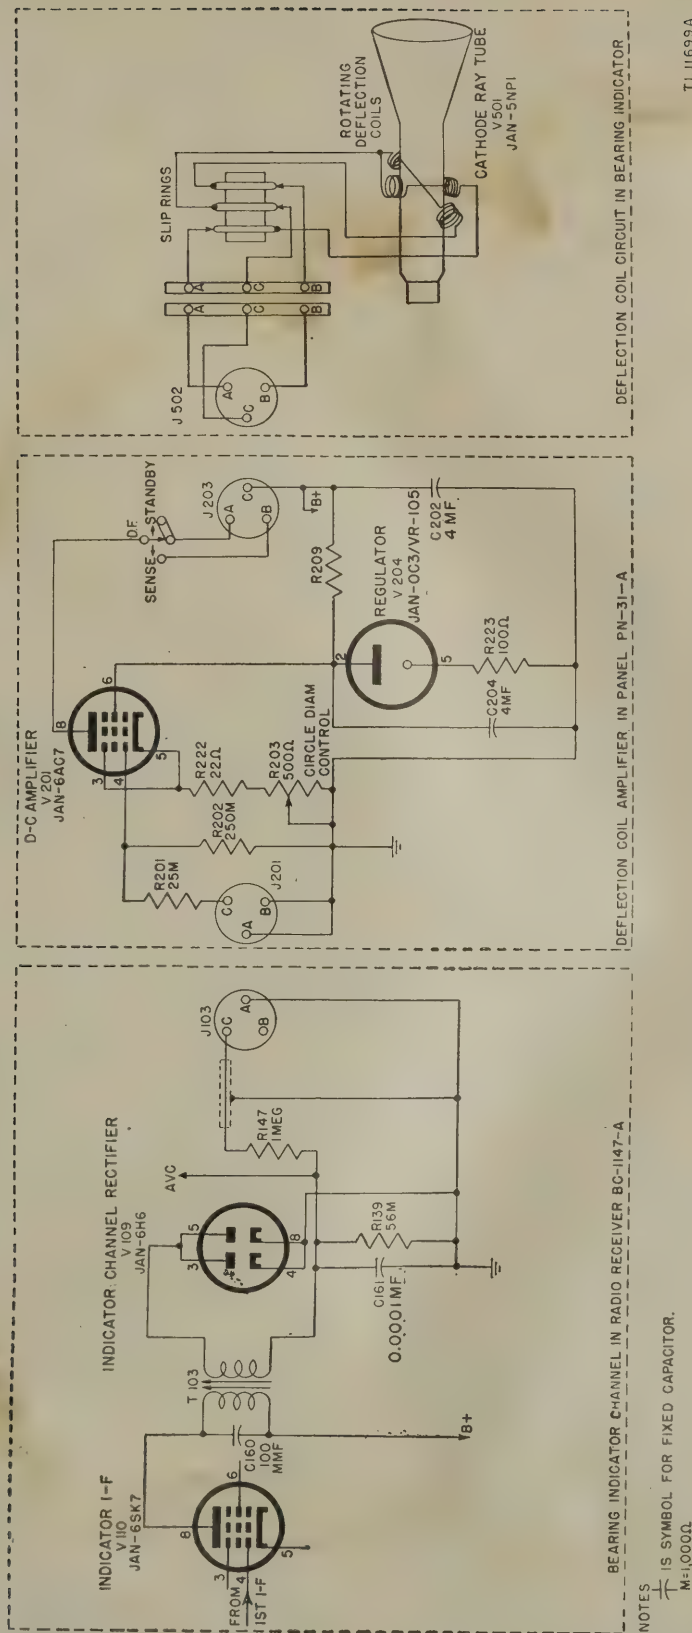
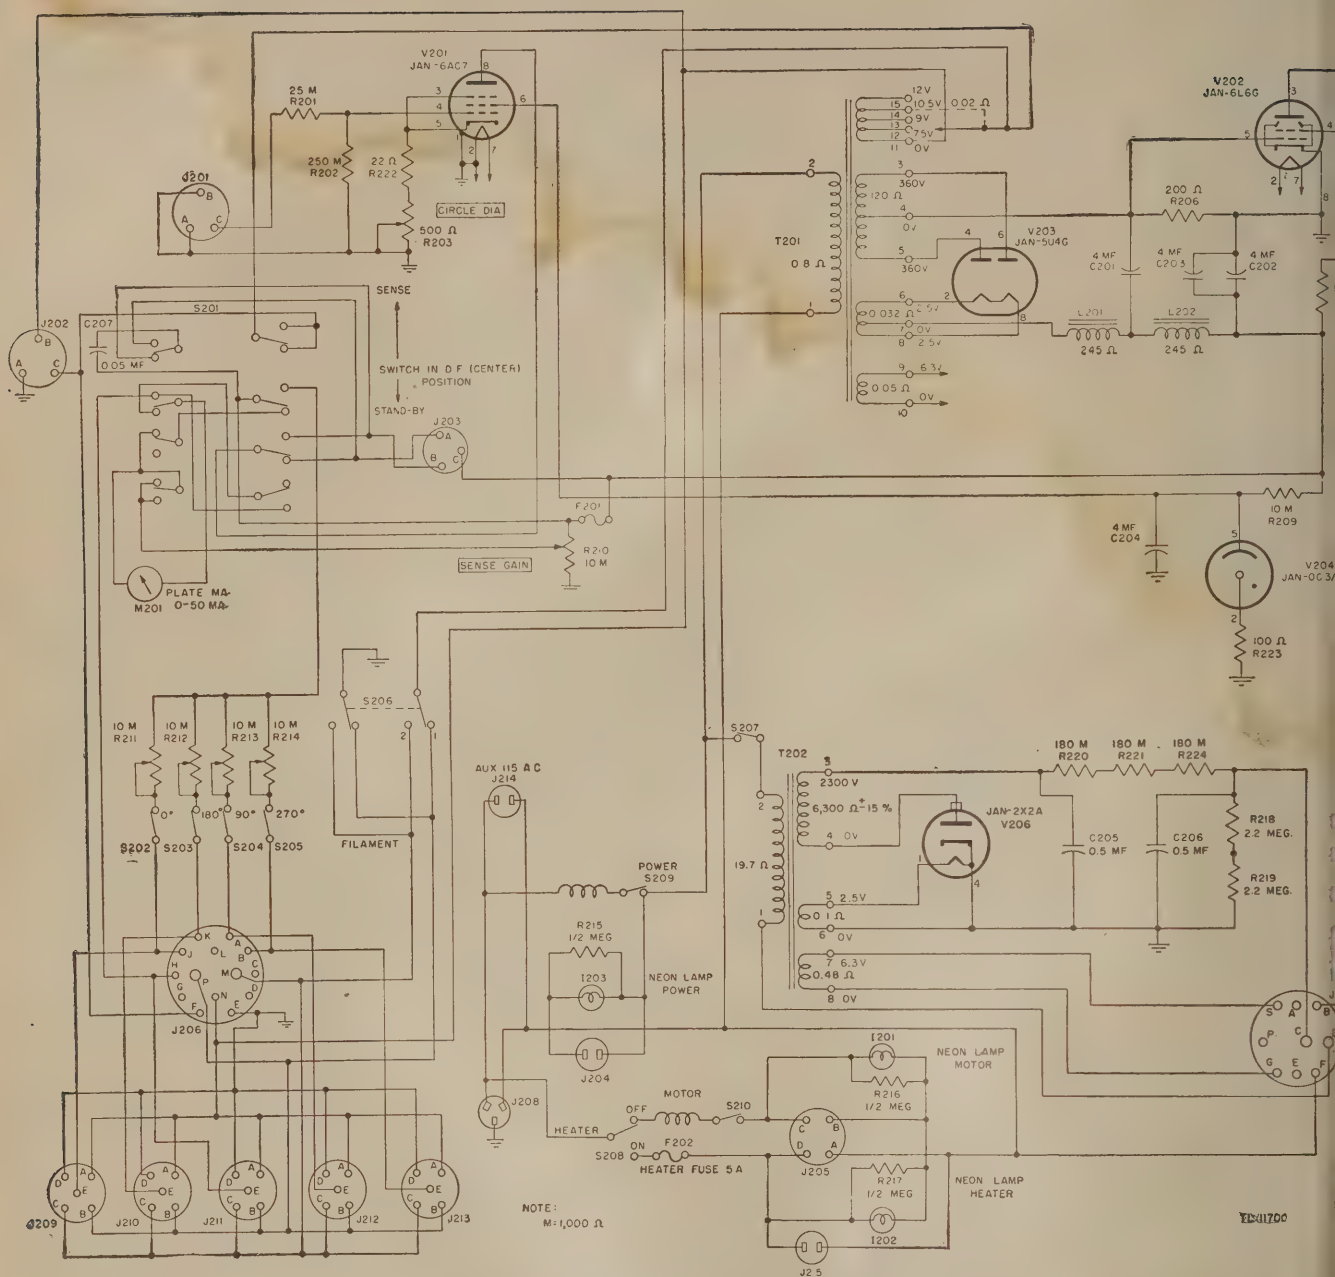
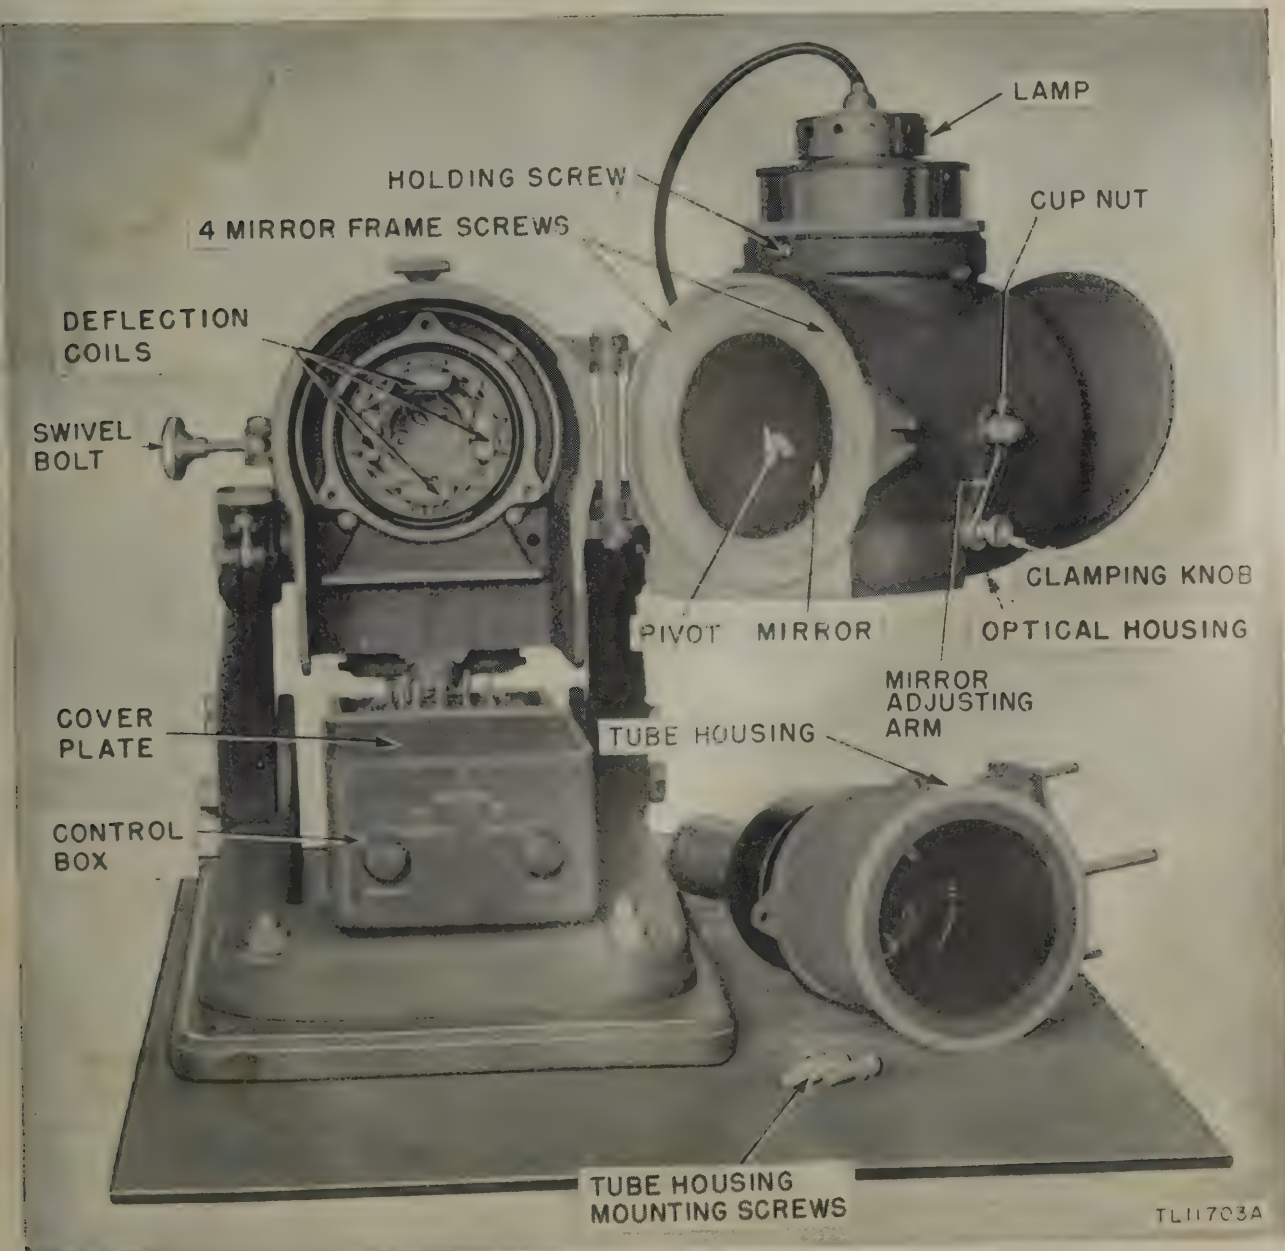
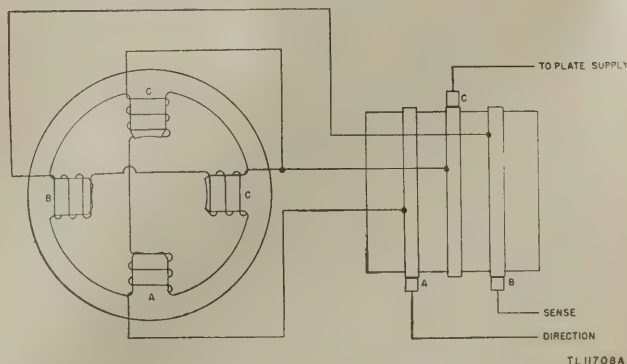

Figure 149. Indicator channel, schematic diagram.
Figure 150. Control Panel PN-31-A, schematic diagram.
Figure 152. Bearing Indicator BC-1159-A, partially dismantled.
Figure 157. Detail of indicator deflection coil circuit.
to ground. A circuit similar to that between the mixer and first i-f stages (fig. 149) is used to couple the output of the first i-f stage to the input of the second i-f stage (V105-V110). Plate voltage is applied to Tube JAN-6SK7 (V105) through a decoupling network (4,700-ohm resistor R124 and the 0.1-mf section C of capacitor C137) and through the primary of transformer T101. The transformer primary and capacitor C138 (100 mmf) form a tuned plate circuit, and the coupling is changed by varying the position of the transformer iron core. The cathode of V105 is grounded through a 4,700-ohm resistor, R122, which is bypassed by the 0.1-mf section A of capacitor C137. Screen voltage is applied through 56,000-ohm series resistor R123, and a third 0.1-mf section of C137 is used to bypass the screen. The control grid (pin 4 of V105) is connected to L120, which is grounded. The output of the first stage is also applied to Tube JAN-6SK7 (V110) in the deflection amplifier channel. Plate voltage is applied to V110 through a decoupling network (4,700-ohm resistor R138 and a 0.1-mf section C of capacitor C159) and through the primary winding of transformer T103. Capacitor C160 (100 mmf) is connected across the primary winding, and the coupling is varied by adjusting the movable iron core. The cathode (pin 5) is biased by means of 270-ohm resistor R136 and the 0.1-mf section A of capacitor C 159. Screen voltage is applied through 56,000-ohm series resistor R137, and the screen is bypassed to ground by the 0.1-mf section B of capacitor C159.
#### 157. Indicator Channel (figs. 149 and 150)
The output of the second i-f stage, V110, is coupled through transformer T103 to Tube JAN-6H6, the indicator channel detector and avc stage V109. The diode plates, pins 3 and 5, are tied together and connected to one end of the transformer secondary winding. The other end of the secondary is connected through 56,000-ohm load resistor R139 to ground. The diode cathodes, pins 4 and 8, are connected together to ground. C161 is a 100-mmf, r-f filter capacitor across the diode load resistor. The detector output voltage is negative with respect to ground and is fed through 1-megohm resistor R147 to contact C on connector J103. From J103 the output is carried through a connecting cable to input connector J201 on Control Panel PN-31-A (fig. 150). The detector output voltage is also used as avc voltage in the receiver. For this purpose, the negative voltage across resistor R139 is applied through a filter, composed of resistor R125 (2.2 megohms) and capacitor C143 (0.25 mf), to the avc contact of the AVC-MAN. switch (fig. 212).
Control Panel PN-31-A is a combined power supply and control unit for the receiving and indicating components of the radio set. The panel includes phase inverter balancing circuits, a d-c deflection amplifier for the indicator channel, and power distribution circuits. The various circuits are discussed in paragraphs 160 through 163; figure 150 is the schematic diagram.
(fig. 149) is applied through connector J201, contact C, and a voltage divider composed of 25,000-ohm resistor R201 and 250,000-ohm resistor R202 to the control grid (pin 4) of Tube JAN-6AC7 (commercial type 6AC7/1852), V201. The cathode (pin 5) and suppressor (pin 3) are tied together and are connected through 22-ohm resistor R222 and the 500-ohm CIRCLE DIAMETER control R203 to ground. The d-c amplifier output is applied through the STAND-BY-D.F.-SENSE switch to the D/F or to the sense set of deflection coils (fig. 152). The deflection amplifier power supply (fig. 150) is composed of transformer T201; rectifier Tube JAN-5U4G; 4-mf capacitors C201, C202, and C203; a voltage regulator circuit composed of Tube JAN-6L6, 200-ohm resistor R206, and 500-ohm resistor R208; and a second voltage regulator circuit composed of Tube JAN-OC3/-VR-105 and 4-mf capacitor C204. The regulated rectifier output voltage is applied through contact C of connector J203, the bearing indicator deflection coils, and back through J203 and the STAND-BY-D.F.-SENSE switch to the plate of V201. The regulated output voltage of V204 is applied to the screen (pin 6) of V201.
The high-voltage power supply furnishes d-c voltages for the electrostatic deflection plates of the cathode-ray tube in the bearing indicator. This power supply (fig. 150) consists of transformer T202; rectifier Tube JAN-2X2A (commercial type 2X2/879); a resistance-capacitance filter composed of three 180,000-ohm resistors, R220, R221, and R224, and two 0.5-mf capacitors C205 and C206; and a bleeder composed of two 2.2-megohm resistors R218 and R219. The cathode of the half-wave rectifier is grounded, and therefore a high negative voltage is developed at the output of the rectifier. This negative output voltage from the filter is connected to contact C of connector J207. A filament winding on the transformer (T202) secondary furnishes filament voltage through contacts S and G of connector J207 to the cathode-ray tube in the bearing indicator.
a. GENERAL. Bearing Indicator BC-1159-A is an electromechanical, optical unit for producing visual bearing and sense patterns. Goniometer MC-412-A is mounted at the rear of the indicator and is driven by the indicator motor. The bearing indicator contains a  $\frac{1}{4}$ -hp (horsepower), 1,800-rpm, synchronous motor; two sets of deflection coils (one for D.F. and one for SENSE) which are mounted on a motor-driven housing around the cathode-ray tube (fig. 152); an optical system composed of a lamp, azimuth scale, and a mirror assembly for projecting the azimuth scale image into the plane of the scope
c. **ROTATING ASSEMBLY.** The two sets of deflection coils are mounted on a four-pole, laminated yoke (fig. 152). The yoke is mounted in a tubular aluminum shell within a steel shell and shaft assembly. The assembly is rotated around a hollow bakelite housing which is attached to the tube support housing. The support housing is bolted to the flange in front of the rotating assembly. The flexible coupling, axle and worm coupling, front and rear bearing housing, oil holes, brushes, slip rings, and gradu-
c. DEFLECTION COIL CIRCUIT. The interconnections between the deflection coils and the deflection amplifier are shown in figure 149. The effect of the deflection coils is explained in paragraph 145. The coil and slip ring arrangement is shown diagrammatically in figure 157.